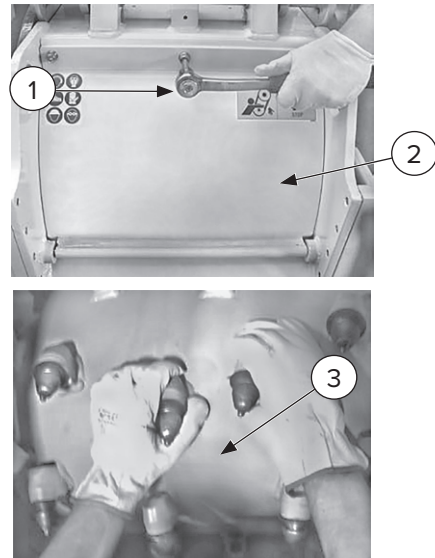

Figure 16
2. Remove the screws [Figure 16, Item 1], and open the drum access panel [Item 2].